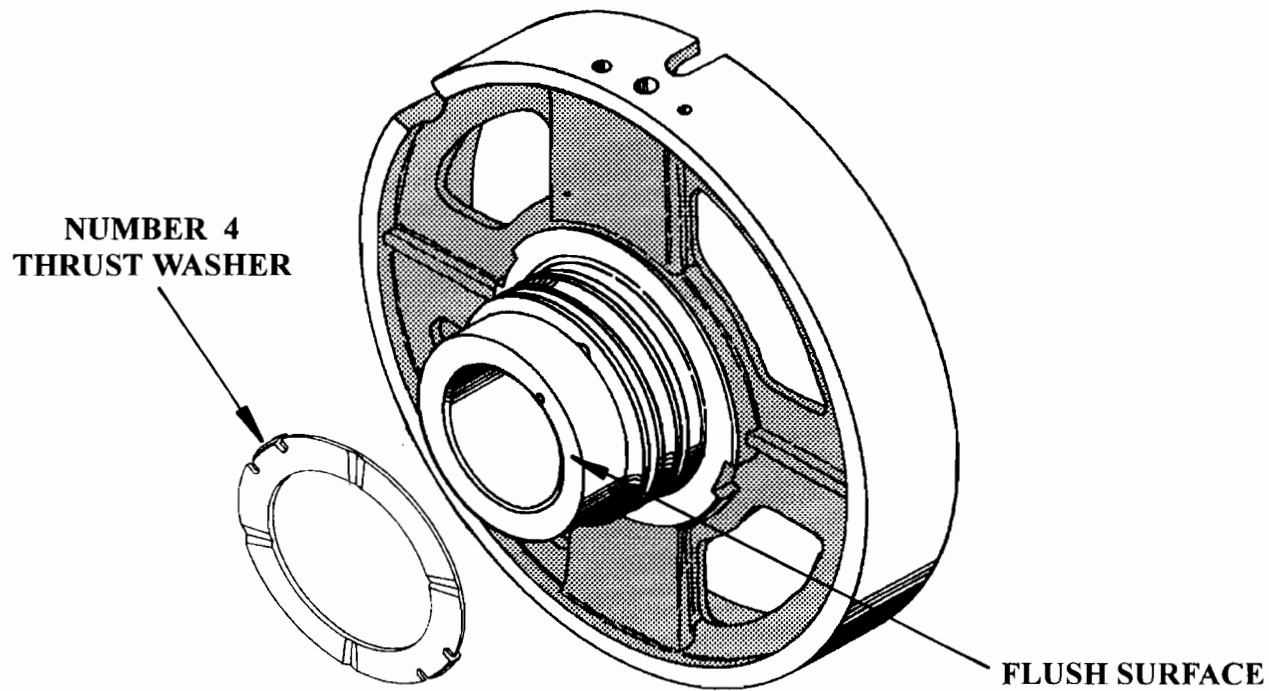
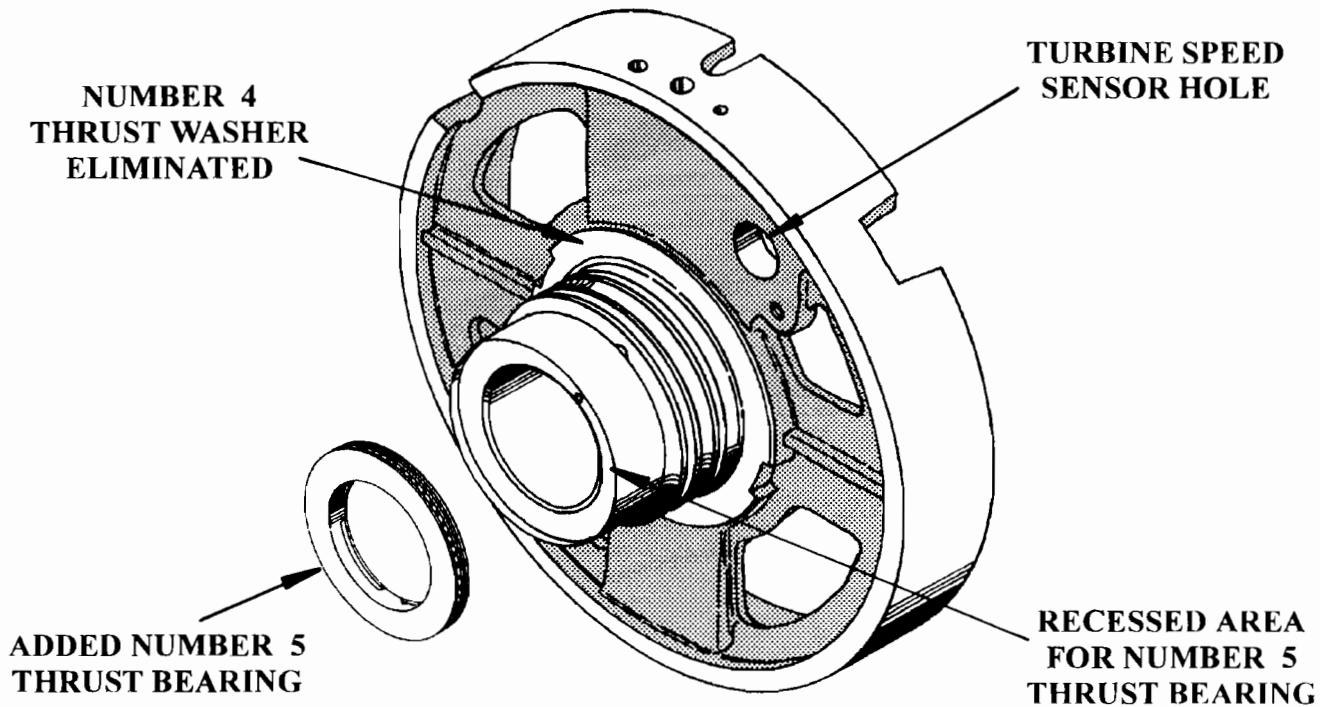

Figure 19
Figure 20
The new design center support also has a machined recess at the base of the sealing ring hub to accommodate the newly added number 5 thrust bearing (See Figure 20). Remember, the number 4 thrust washer was eliminated when this change occurred (See Figure 19).
2. Machined recess for added number 5 thrust bearing (See Figure 20).